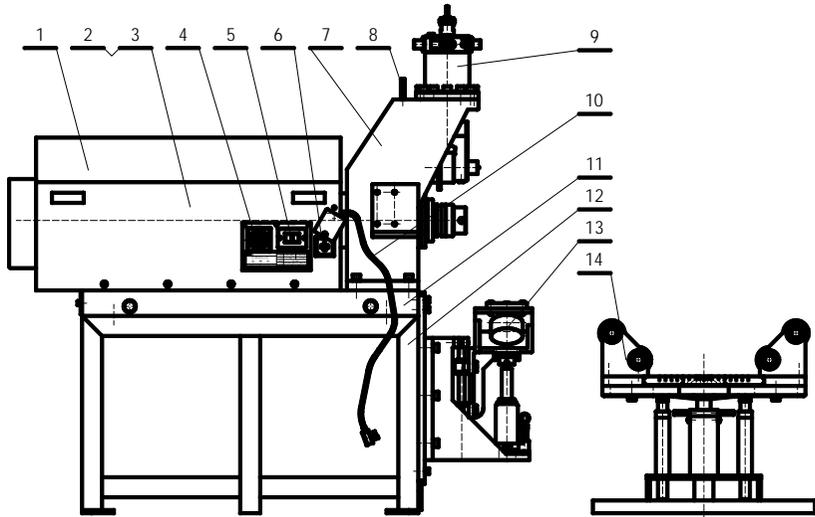
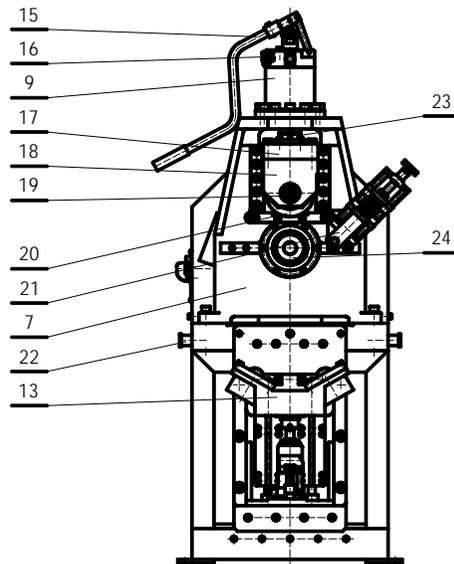

Fig. 1
Fig. 2
2.1 GC984-A PIPE GROOVING MACHINE (Fig.1) (Fig. 2)
screw bolt (see Fig. 3) on the wedge base to vary the height of the slide wedge. After grooving, measure the groove depth and make accurate adjustment if necessary. The slide gauge is available for reference to control the groove depth (Fig.1).
5.1.12 This pipe grooving machine is equipped with pipe stabilizer, which is installed on the left of spindle in 45° angle. When grooving, the rollers of pipe stabilizer butts the pipe to minimize pipe shaking. User can shorten the spring properly but cannot make it dead. (Fig. 2)
5.1.13 Pipe grooving machine could attach an optional assistant supporting rack (Fig.1) (Fig.14). Before grooving, put the middle part of pipe on pipe stand, and put the to-be-grooved end on this assistant supporting rack, and utilize this rack to push pipe onto knurl. After finishing grooving, use jack to eject the pipe away from knurl, and take off the pipe from machine. Be alert that the assistant supporting rack should keep off from pipe during grooving.